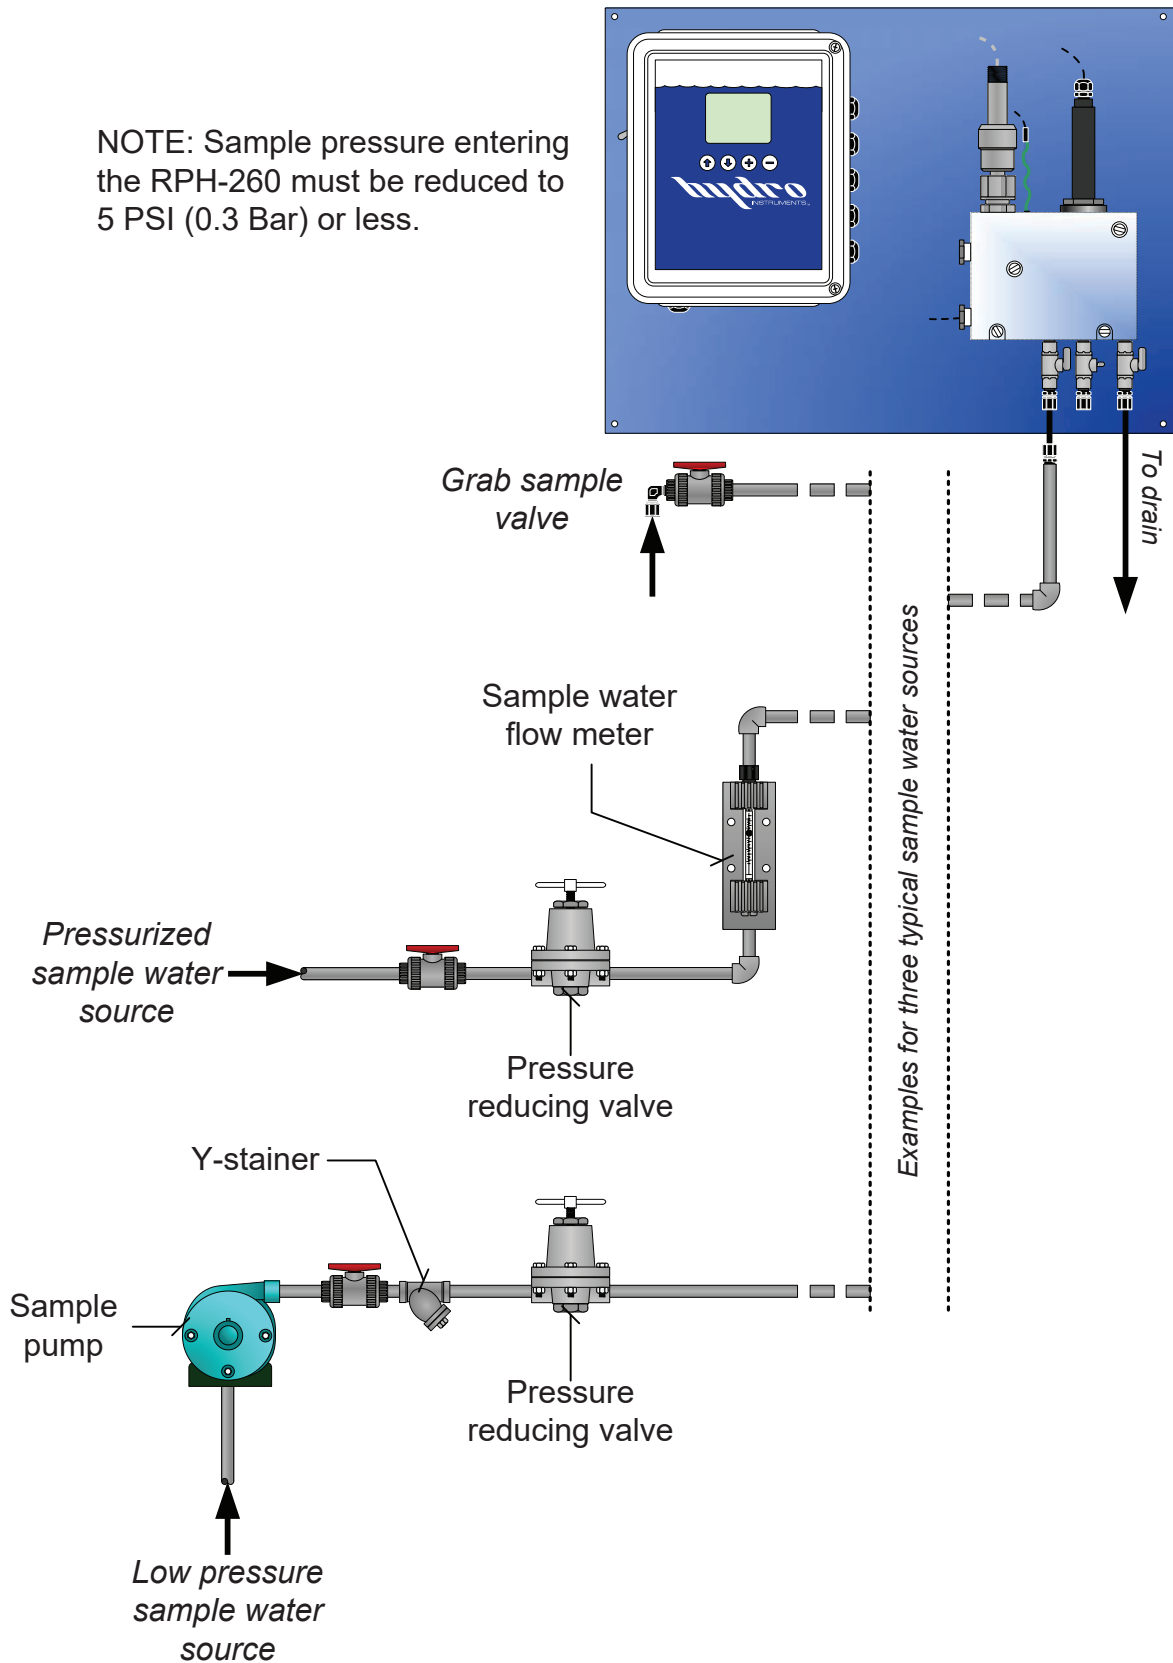

FIGURE 3
- 1. Sample Water Connection and Control:** The following are some considerations relating to the sample water supply. The Series 250 Residual Chlorine Analyzer requires a constant supply of sample water at a controlled rate and pressure. Precautions should also be taken to ensure that the sample water reaching the residual analyzer is not altered as it passes through the sample water piping. Also, the connection to the sample point should be made in such a way to avoid receiving air or sediment from the pipe. Consider Figure 3 when creating your sample water line